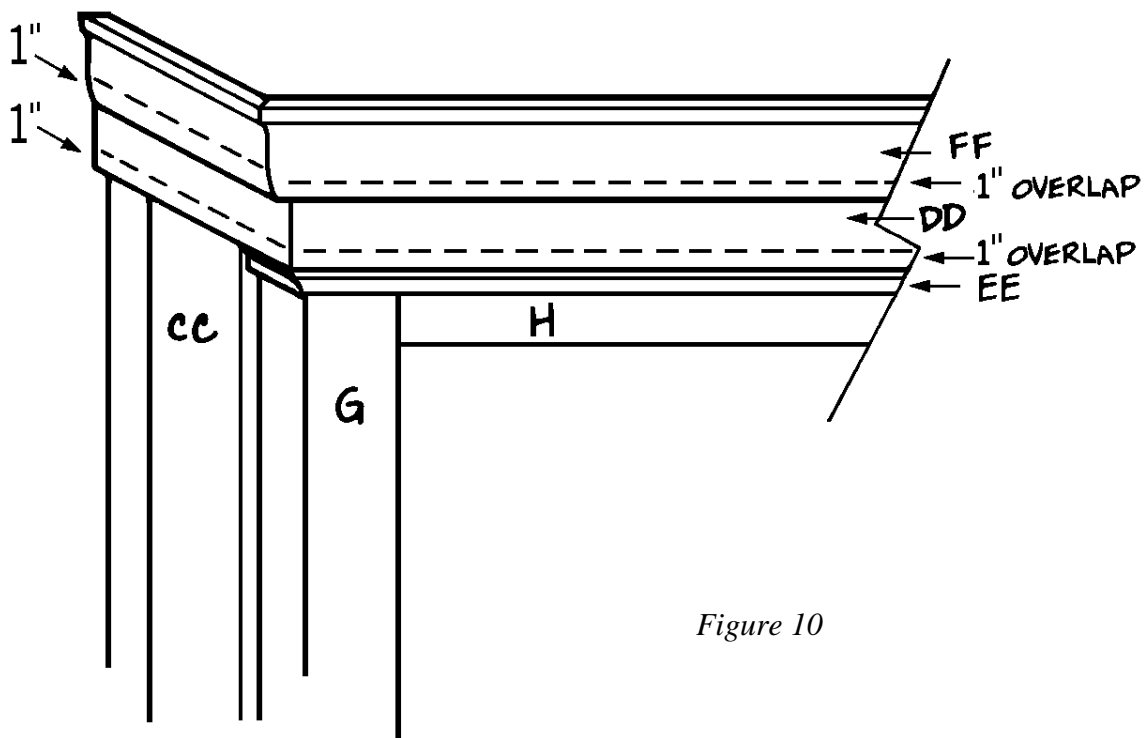

Figure 10
1. Study *Figure 10*, which shows the pine trim (DD), cove molding (EE), and crown molding (FF) added to the cabinet top; the fluted trim (CC) added to both sides; and beaded molding (BB) added to the bottom. Because the back and sides of the cabinet fit against the wall, no molding is added to them.
2. Carefully measure and cut two 6-1/2"-long pieces of beaded molding (BB) to fit across the lower fronts (L) at the bottom of the cabinet and one 32"-long piece to fit across the lower facers (O and Q). Miter one end of each shorter piece and both ends of the long piece at 22-1/2 degrees. Glue the mitered pieces of beaded molding (BB) to the cabinet and secure with 3d finishing nails space about 3" apart.